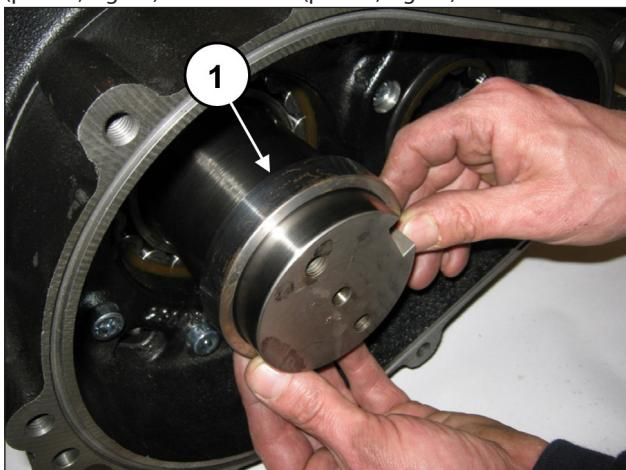
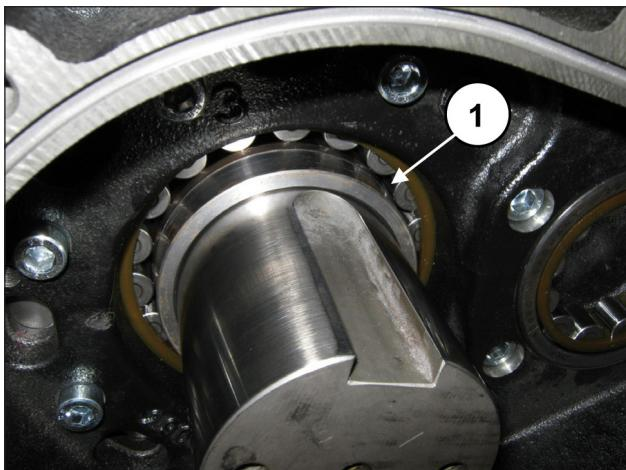

Fig. 74
Fig. 75
Insert the ring gear support ring in the crankshaft shank (pos. ①, Fig. 74) to end stroke (pos. ①, Fig. 75).